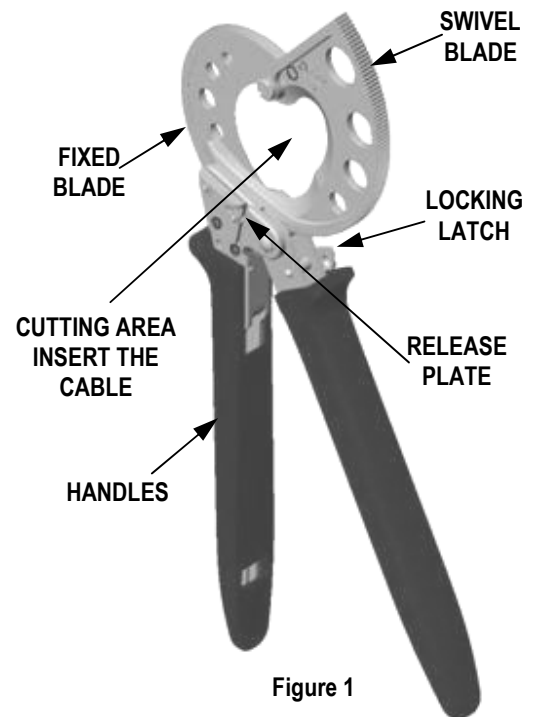

Figure 1
1. Close the movable handle until the release plate can be moved in the down position. See Figure 1.